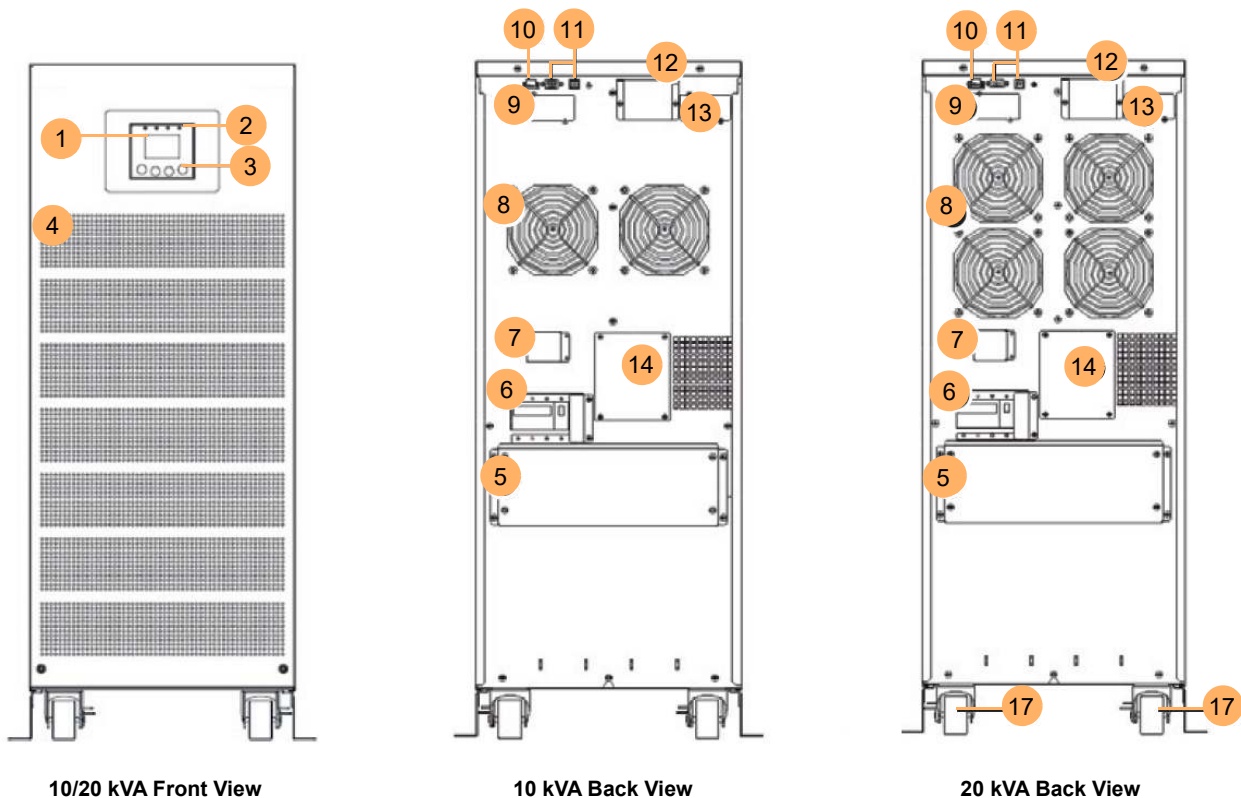

Figure 2.7 PowerWave PW3000/TP Controls identification
To expand the overall UPS system rating, up to four PowerWave PW3000/TP UPS cabinets can be connected together to operate as a parallel UPS system. This is achieved by connecting each cabinet's output power terminals in parallel at an external load distribution panel and linking together the parallel control bus in each cabinet to effectively provide a common parallel control bus. The parallel control bus cable is connected to a socket located near the top rear of the cabinet which is covered by a blanking plate when not used (item 12 in Figure 2.7).